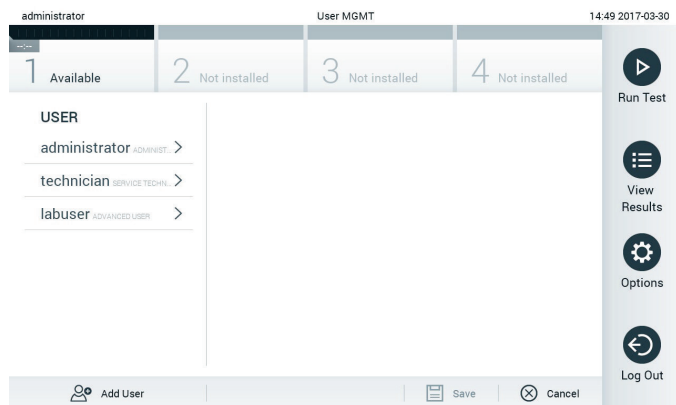

Figure 47. The User Management screen.
1. Press the **Options** button and then the **User Management** button to configure users. The **User Management** screen appears in the content area of the display (Figure 47).